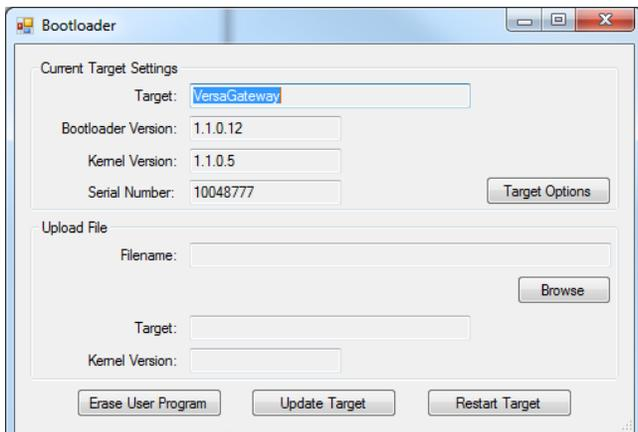

Figure 2-9 - Bootloader
7. Using the menu, click **PROJECT** then **BOOTLOADER**. You may see a window momentarily while EZ LADDER connects to the VersaGateway device bootloader. The Bootloader window will open. See Figure 2-9.